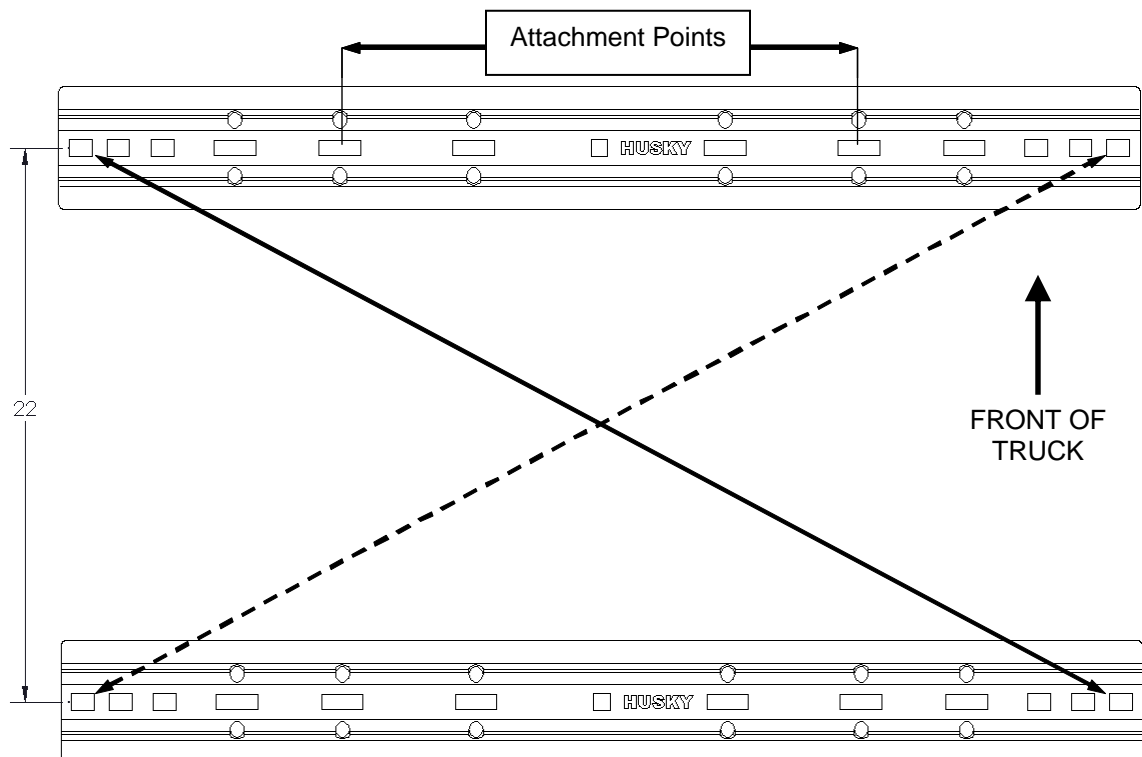

Figure 2
2. Position the bed rail assembly in truck bed as shown on Figure 1. Be sure bed rails are parallel by measuring diagonally as shown in Figure 2. Measurements should be less than 1/4" different.
- Mark two attachment points on the truck using the slots in the front base rail as indicated on Figure 2.